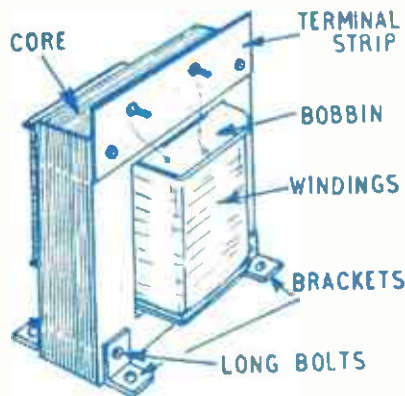

Fig. 3—Completed transformer
As the secondary is of thicker wire, there is no point in soldering flexible leads on here. Instead, the beginning and end of the secondary can be taken to two terminals, as in Fig. 3.
A layer of tape will hold the secondary firm. The stampings are then inserted. (T) and (U) stampings are placed in position from alternate ends of the bobbin, so that joints between (T) pieces and (U) pieces come first one end, then the other. This can be seen in Fig. 3.
If the stampings have corner holes, four long bolts will clamp the core firmly together, and allow a terminal strip and mounting brackets to be added, as in Fig. 3. If there are no holes, the core can be clamped between two pairs of long brackets, the bolts coming just outside the stampings.
Figs. 3 and 4 shows the lid of the box is made in a similar way to the body with